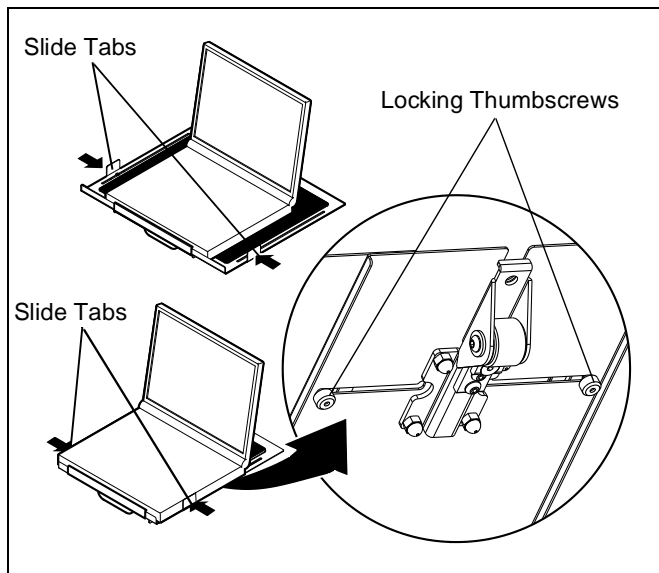

Figure 5
3. Position Laptop so that it is centered and resting against the front edge of tray. (See Figure 5)
4. Push slide trays inward until slide tabs rest against side of laptop. (See Figure 5)